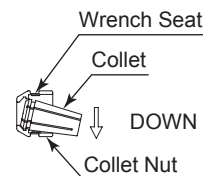
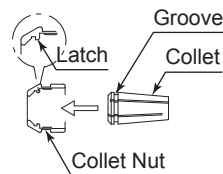
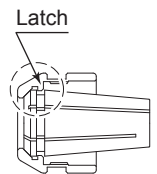

Fig. 5
Fig. 6
Fig. 7
- ② The collet and collet nut are secured by a groove in the collet and a flange in the collet nut. To remove the collet hold the collet nut in one hand and push diagonally down on the collet. The collet should be released (Fig. 5).
- ③ To install the collet, hold the collet at a slight angle, and insert it into the collet nut (Fig. 6). Press the collet in the collet nut by positioning the collet in the collet nut and pressing down on flat surface (Fig. 5). Be sure to fully engage the latch inside the collet nut into the groove on the collet's outer circumference area (Fig. 7).